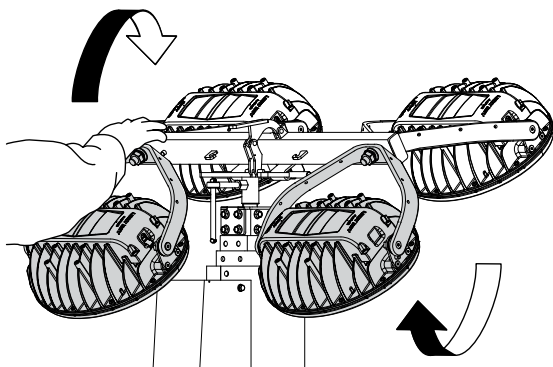

Figure 25. Pushing Down Light Tower
3. Push down the light tower (Figure 25). Force is required to push down because springs are installed.